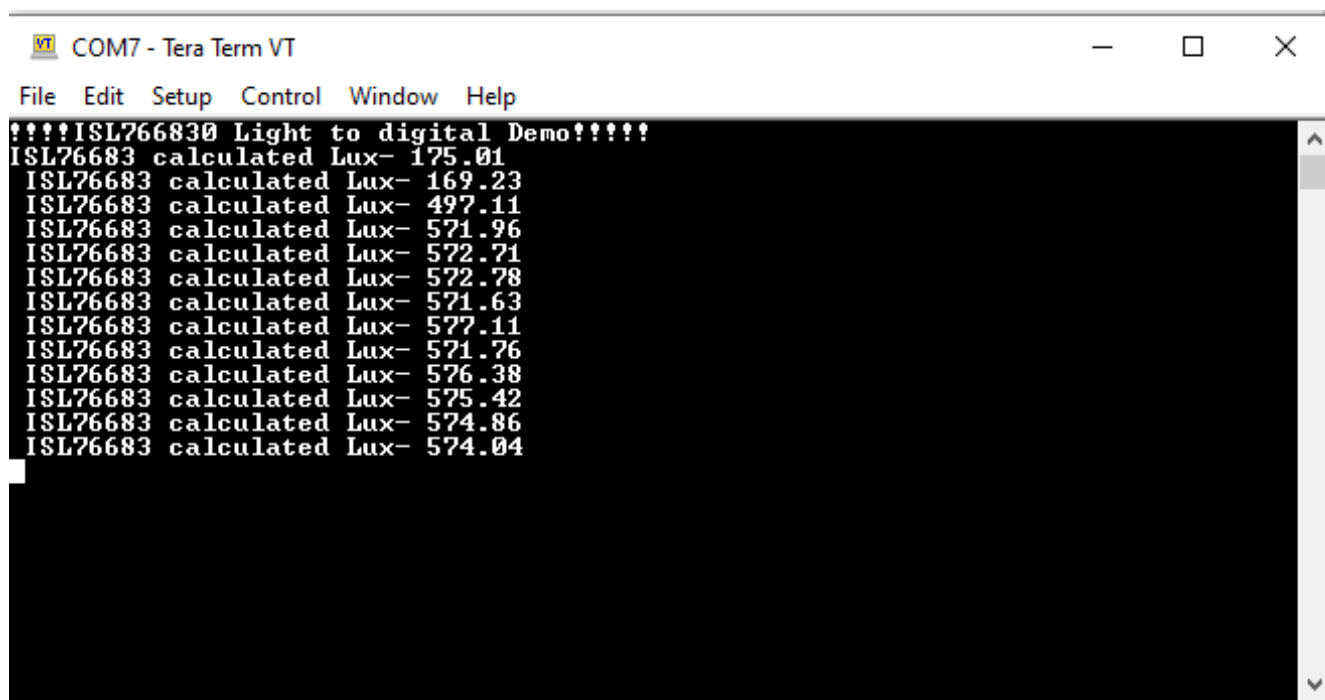

Figure 6. Serial Data Output Window
3. After debugging is complete, the lux data can be viewed from the Tera Term VT software window (see Figure 6).